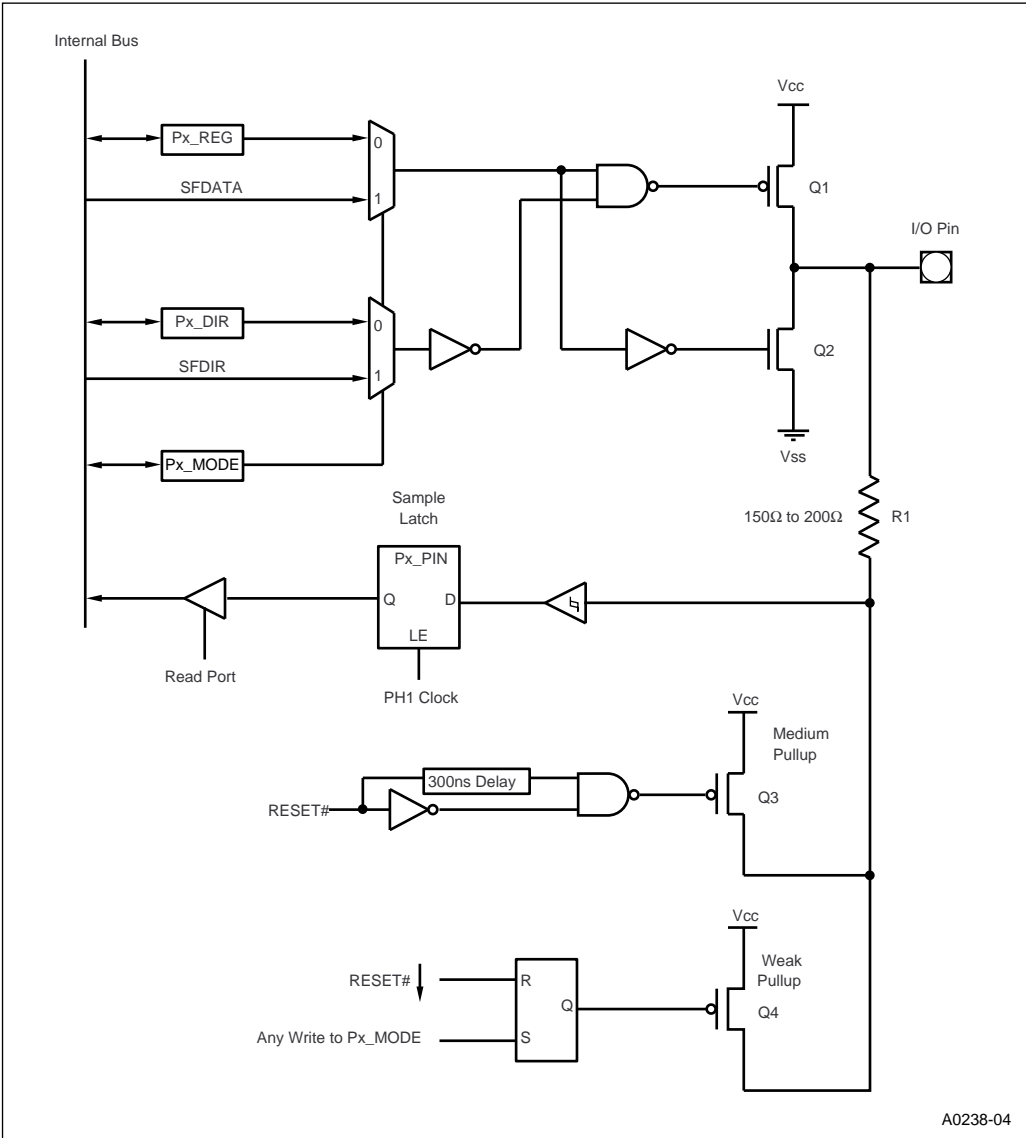

Figure 6-2. Bidirectional Port Structure
Figure 6-2 shows the logic for driving the output transistors, Q1 and Q2. Q1 can source at least -3 mA at $V_{CC} - 0.7$ volts. Q2 can sink at least 3 mA at 0.45 volts. (Consult the datasheet for specifications.)
- Port 1** After reset, your software must configure the device to match the external system. This is accomplished by writing appropriate configuration data into P1_MODE. Writing to P1_MODE not only configures the pins but also turns off the transistor that weakly holds the pins high (Q4 in Figure 6-2 on page 6-8). For this reason, even if port 1 is to be used as it is configured at reset, you should still write data into P1_MODE.
- Port 2** After reset, your software must configure the device to match the external system. This is accomplished by writing appropriate configuration data into P2_MODE. Writing to P2_MODE not only configures the pins but also turns off the transistor that weakly holds the pins high (Q4 in Figure 6-2 on page 6-8). For this reason, even if port 2 is to be used as it is configured at reset, you should still write data into P2_MODE.